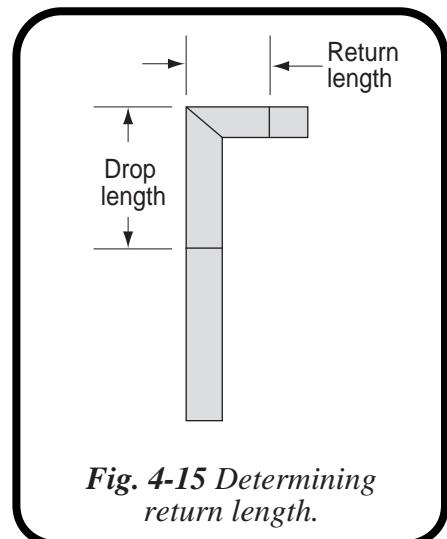

Fig. 4-15 Determining return length.
11. Measure the distance from the back of the fitting to the face of the newel and add to this distance the thickness of the rail. This is your return length. Please note Fig. 4-15 here.